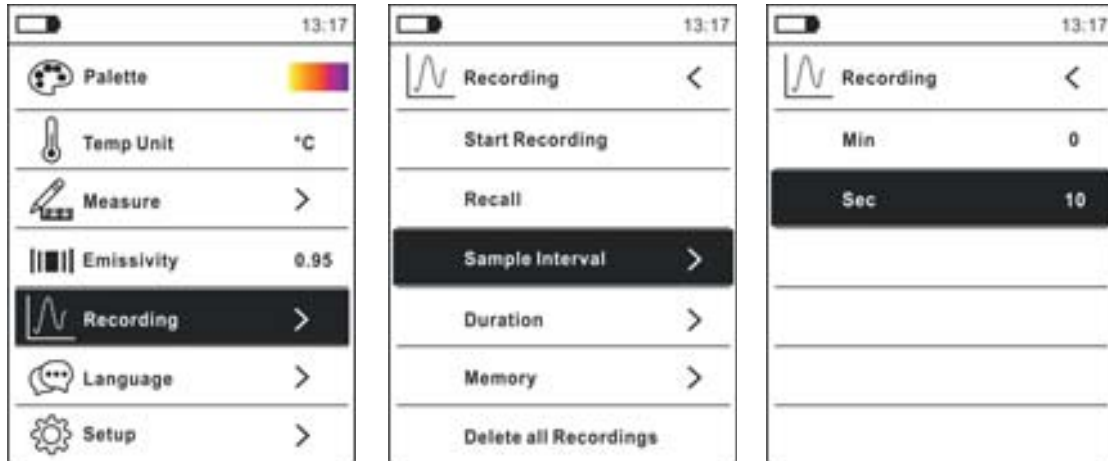

Fig. 35: Data logger function – Setting of the sampling interval
2. Press key **MENU** , select item “Recording” and press key . The screen in Fig. 35 – left side appears on the display.
3. Select item “Sample Interval” (see Fig. 35 – middle) and press key  to select the sampling interval for recording. The screen in Fig. 35 – right side appears on the display.